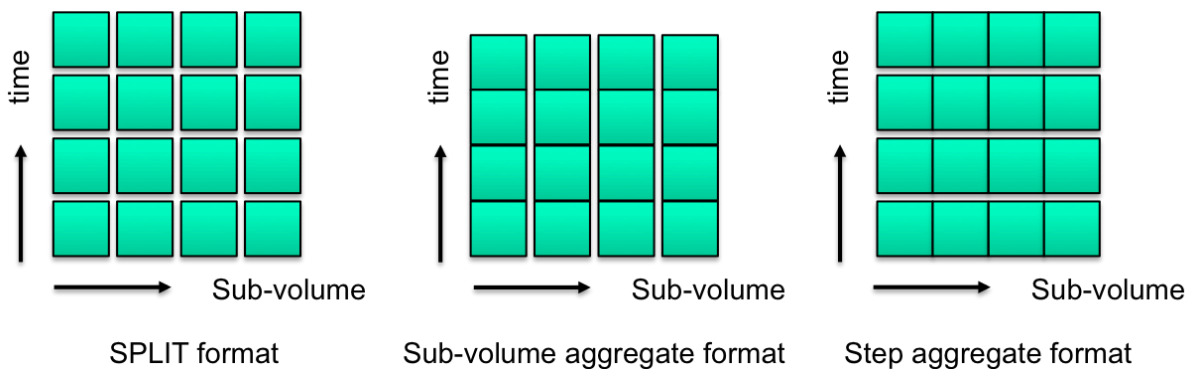

Figure4.3-1 Output file formats available for PBVR Filter
This section describes the file formats that are read or written by PBVR Filter. All binary data in input and output files are single precision, without a header or footer, and in little endian format. The following three file formats are available: (1) the split format (which actually make use of kvxml format), (2) the sub-volume aggregate format, and (3) the step aggregate format (Figure4.3-1). The split format generates independent files for each time step for each sub-volume. However, in this format, the number of files grows exponentially as the number of layers in the octree increases. This problem can be avoided by using either of the other two file formats. The sub-volume aggregate format aggregates files over different time steps (but for the same sub-volume) to a single file. Conversely, the step aggregate format aggregates files over different sub-volumes (for the same time step) to a single file. The following sections explain these three file formats in detail.